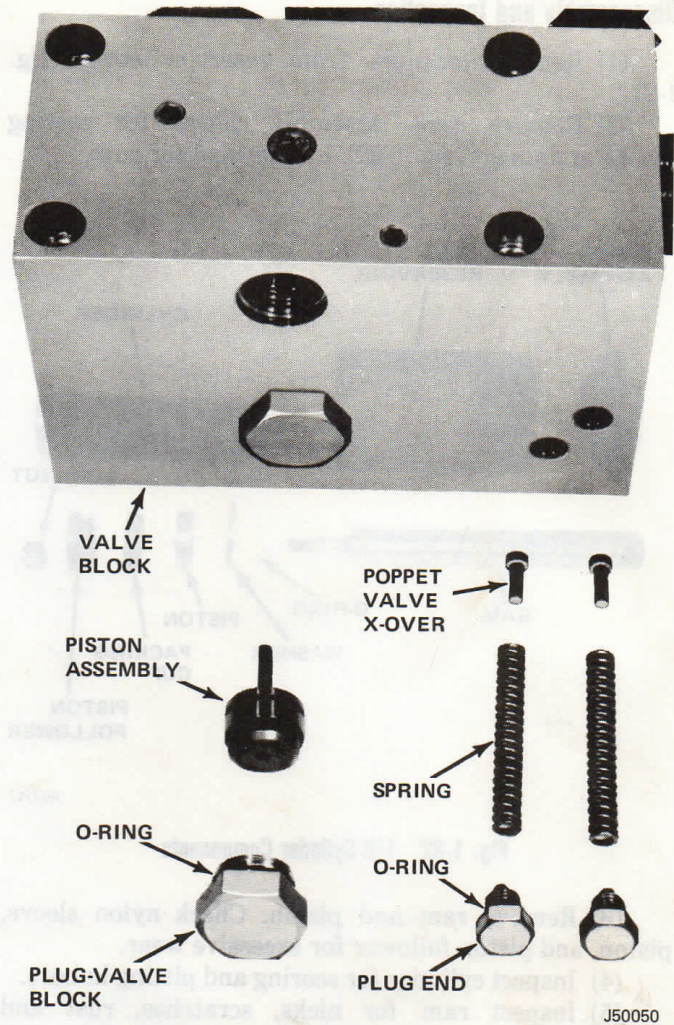

Fig. 1-25 Piston Assembly and Poppet Valves—Exploded View
(24) Remove plug and piston assembly from valve block (fig. 1-25). Discard O-ring.
(25) Inspect piston bore for foreign material and scratches. Piston must move freely in bore.